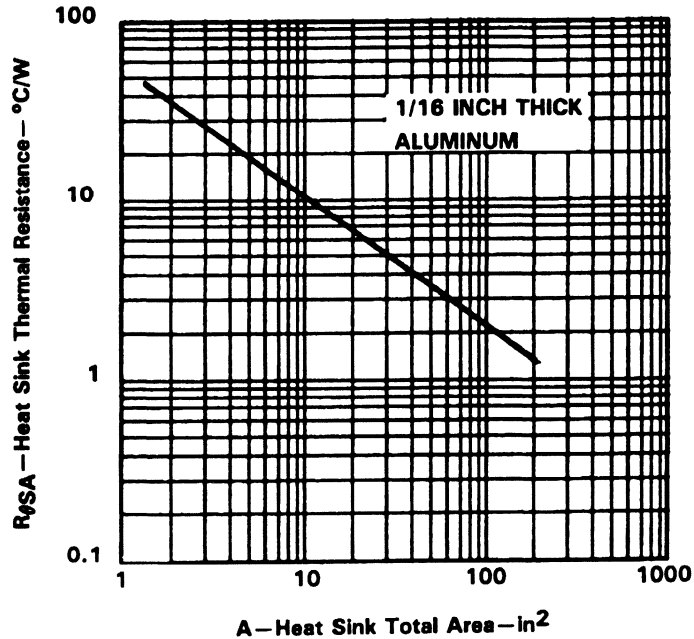

Figure 3. Typical Heat Sink Thermal Resistance vs Heat Sink Total Surface Area
If the $R_{\theta SA}$ calculated is less than 47.5 °C/W, an external heat sink is required. The size heat sink necessary to achieve the required $R_{\theta SA}$ can be determined from Figure 3 or from a heat sink catalog.
From Figure 3, the heat sink total area (both sides) is $A = 5 \text{ in}^2$. Using this number for the area, the heat sink size can be determined using equation (3).